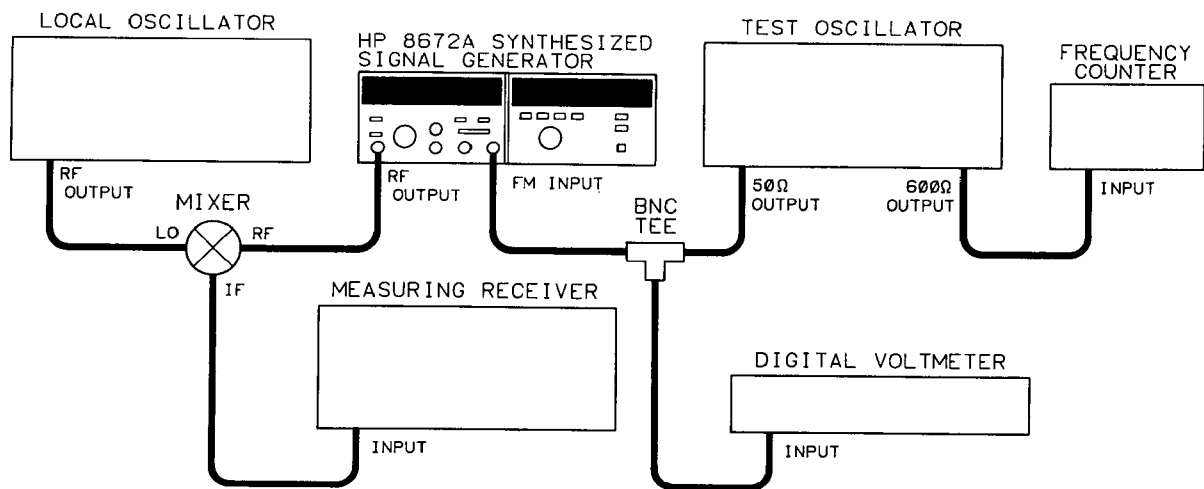

Figure 4-13. External FM Accuracy and Meter Accuracy Test Setup
1. Connect the equipment as shown in Figure 4-13.